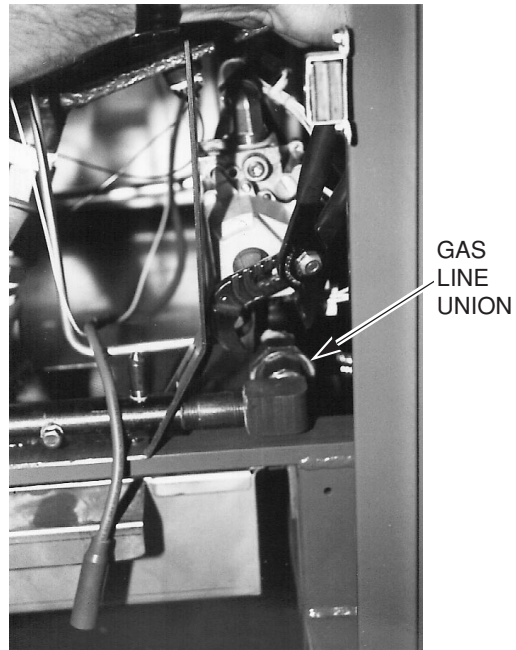

Fig. 43
4. With channel locks loosen the burner gas line union attached to the combo valve pipe fittings. (Fig. 43)